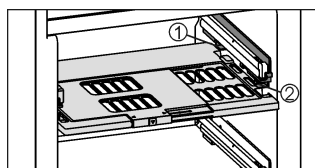

Fig. 7
- ▶ To insert the humidity control plate: Insert the cover mouldings of the plate into the rear holder *Fig. 7 (1)* from underneath and engage them in the holder *Fig. 7 (2)* at the front.